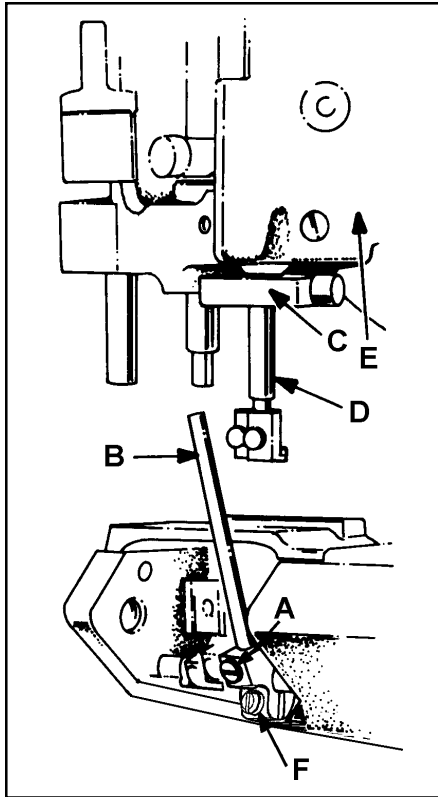
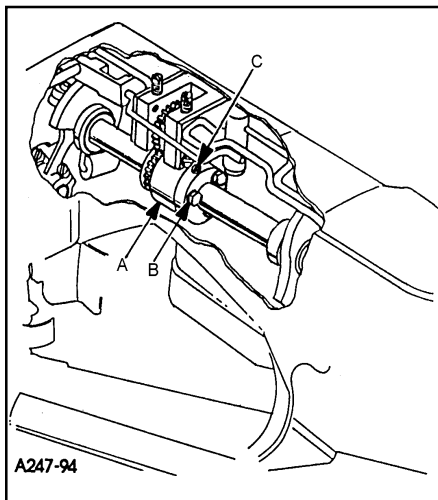

FIG. 2
FIG. 3
To synchronize the machine, remove the needles, presser foot, throat plate, feed dogs and upper feed roller mechanism. Rotate handwheel in the operating direction until the needle bar is at the bottom of its stroke and just begins its upward travel. Loosen screw (A, Fig. 2) and remove the looper for the left hand needle from the looper holder. Insert a straight steel rod (B) $\frac{5}{32}$ " (3.9mm) or $\frac{11}{64}$ " (4.3mm) diameter by $2\frac{1}{2}$ " (63.5mm) long into looper holder and retighten screw (A). Rotate the handwheel until the rod (B) is at the extreme left and reinstall the throat plate. Loosen screw (F) in looper holder and move the holder left or right until the right side of the rod is approximately $\frac{5}{32}$ " (4.0mm) from the left edge of the throat plate, tighten screw (F). Turn the handwheel in the operating direction, with needle bar rising until rod (B) comes in contact with the edge of the throat plate. At this point, clamp Union Special timing gauge No. TT147 (C) around the needle bar (D), flush against the underside of the machine casting (E). Rotate handwheel in the opposite direction until either the gauge contacts the machine casting on the up stroke of the needle bar or the rod contacts the edge of the throat plate. Maximum allowable clearance between gauge and casting or rod and throat plate is .005" (0.1mm)
Both ends of the adjustable split coupling are secured to the crankshaft and main shaft by spot screws and set screws. On the main shaft end of the coupling (A, Fig. 3) three screws (B) thread horizontally through the coupling. The holes in the main shaft end of the coupling are larger than the diameter of the screws, permitting several degrees of rotation in either direction to properly synchronize the needle and looper. Loosen the three horizontal clamp screws (B, Fig. 3). With rod (B, Fig. 2) at its farthest position to the left, snug the uppermost horizontal clamp screw enough to hold coupling (A, Fig. 3) in position. If the handwheel is turned in reverse of operating direction and gauge (C, Fig. 2) on needle bar (D) contacts the machine casting (E) before rod (B) contacts the edge of the throat plate, loosen horizontal clamp screw (B, Fig. 3) which was snug, while holding the coupling in place with an Allen wrench in set screw (C). Rotate the handwheel slightly in reverse of operating direction, snug the uppermost horizontal clamp screw (B), recheck synchronization. If the handwheel is turned in reverse of operating direction and the rod contacts the edge of the throat plate before the clamp gauge contacts the machine casting, adjust as before, except turn the handwheel slightly in the operating direction. Use shim stock to insure no more than .005" (0.1mm) exists between gauge and casting or between rod and throat plate, in both the operating and reverse directions of the handwheel. When this setting has been made, tighten the three horizontal clamp screws (B, Fig. 3) securely, and recheck both clearance points with .005" (0.1mm) shim gauge to assure no slippage occurred while tightening the screws.